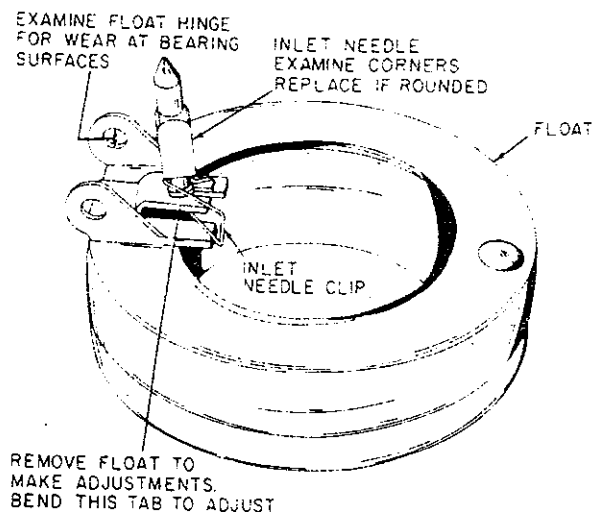

Figure 12
- (7) FLOAT. Be careful when removing the float from the carburetor body. On some models, the inlet needle is attached to the float with an anchoring clip and will be lifted off the seat as float is removed. Remove the float (Figure 12) from the carburetor main body by pulling out the float axle with a pair of needle-nosed pliers. Examine the float hinge (Figure 12) bearing surfaces through which the float axle passes and replace if worn. Excessive wear on the tab of the float hinge that contacts the inlet needle will require replacement of the float to assure proper fuel metering within the carburetor.
- a. The inlet needle is anchored to the float tab by a clip, (Figure 18) to assure proper movement of the inlet needle off of the seat when the float drops. The inlet needle clip must be positioned as shown in Figure 12 during reassembly. Examine inlet needle carefully and install new needle if any evidence of wear or damage is noticed.